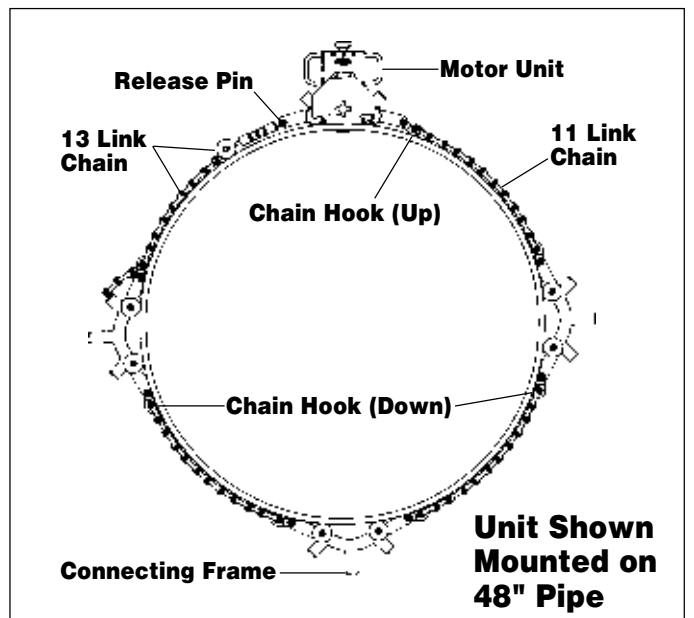

FIG. 3
3. Connect chain and turnbuckle assembly to motor unit with release pin. Extend turnbuckle to outermost position. (Fig. 3.)
4. Connect chain hook with release pin to other side of motor unit. Assemble hook in upward position. (Fig.3.)
6. If cutting pipe where connecting frames and 11 link chain are needed, (UPC636 & UPC648 only) pre-assemble chain hooks to the aluminum connecting frames, with the chain hooks in the downward position. (Fig. 3.) Return to Step 5 being sure to space the connecting frames equi-distant to the motor unit. (Fig. 3.)